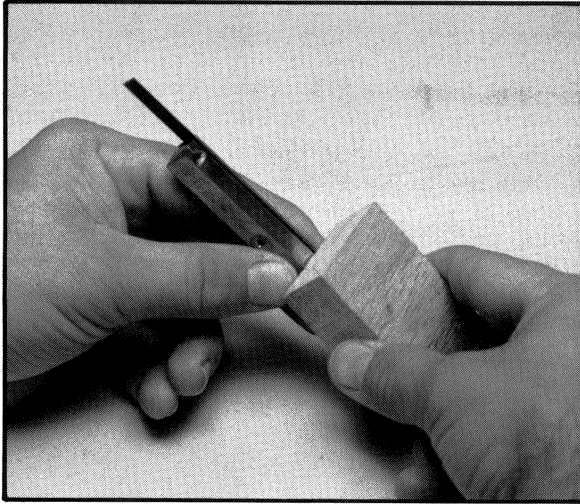

Fig. 10
4. Use a block of wood to push the blade out of the pressure bar as shown in Fig. 10.